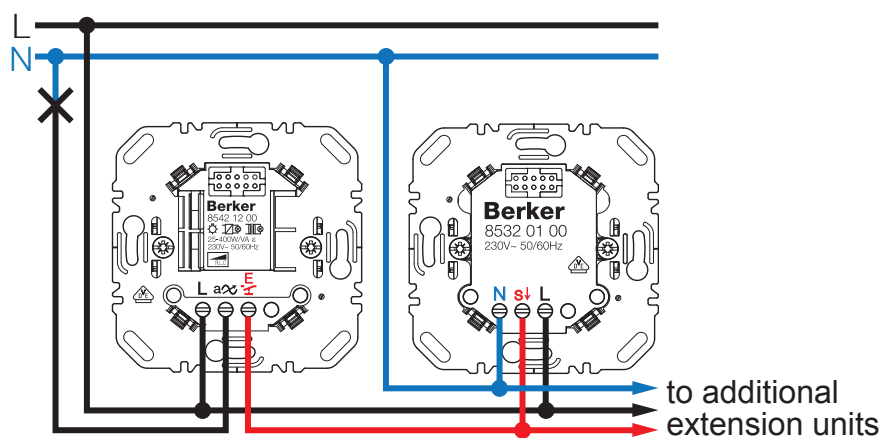

Figure 2: Universal dimming or switch insert with motion detector extension units
- Connect the motion detector extension unit according to the circuiting diagram (Figure 2 or 3).